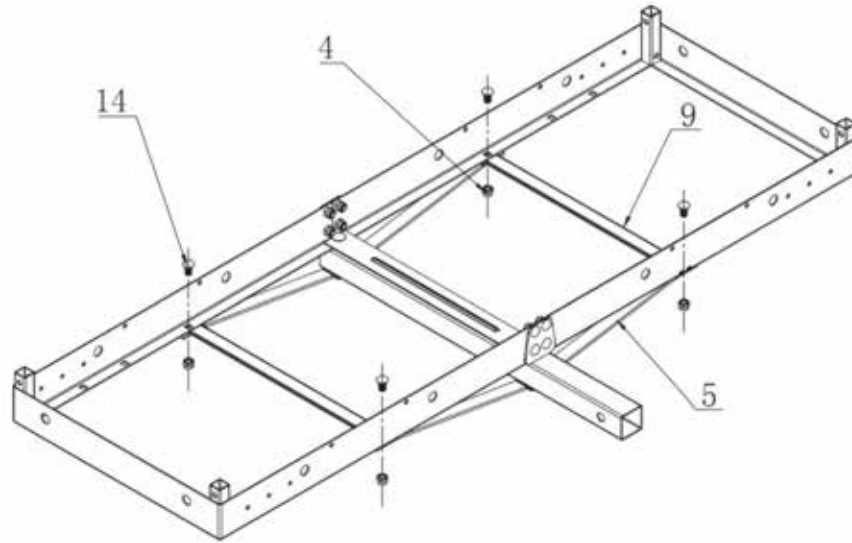

FIG. 3
Step 3. Secure both sides of the two support braces (5) and the two stiffeners (9) to the frame (1) with four M10x25 carriage bolts (14) and four M10 lock nuts (4). Do not tighten completely yet. See Fig. 3.